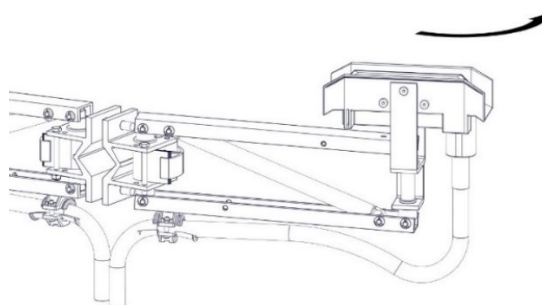

Fig. 3: Push the current collector arm backwards
- Push the current collector arm backwards to relieve the spring. Fix the current collector arm in this position for mounting the end stop (see Fig. 3).